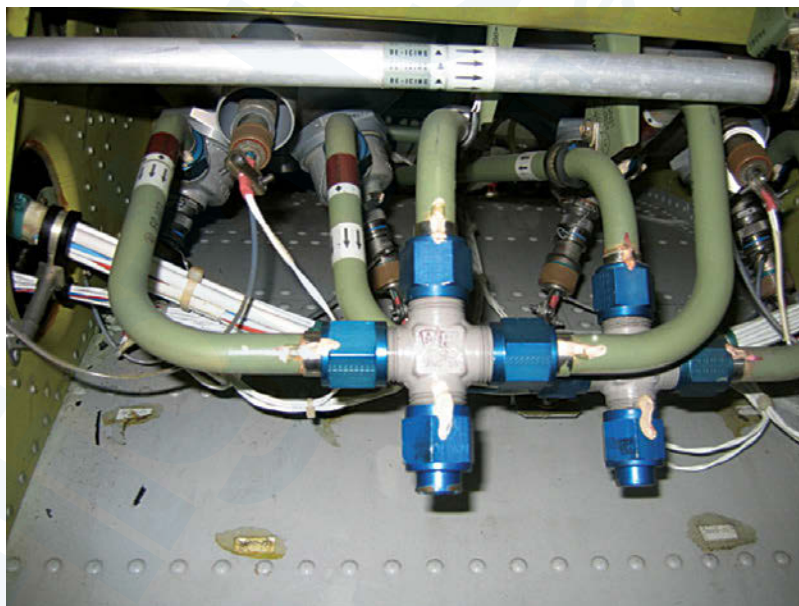

Figure 26-23. LH Underwing Fire Bottle Pipes
- Figure 26-23. LH Underwing Fire Bottle Pipes.